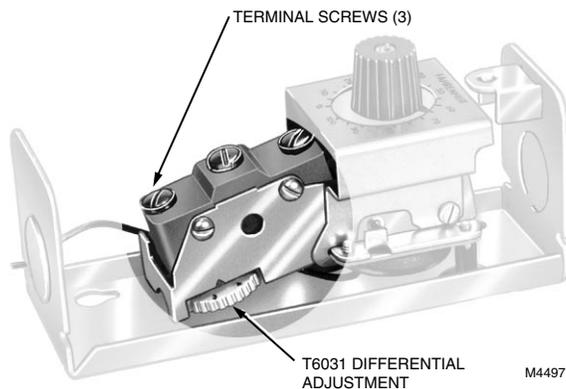

Fig. 7. Internal view showing differential adjustment wheel (applicable models).
**Adjustable Differential**—With the cover off, turn the differential adjustment wheel (marked 3-6-9-12°F) until the desired differential is aligned with the notch in the frame. See Fig. 7.